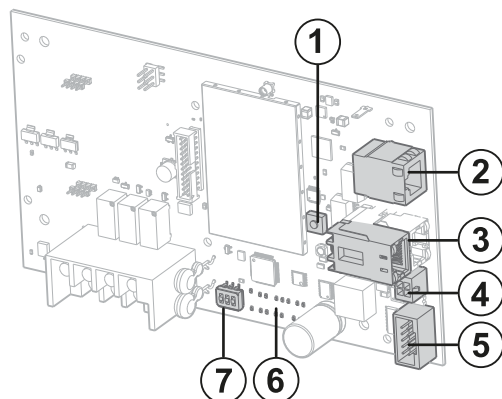

Fig. 33: Connected Services Gateway module
- 1 Connect the power harness to the 4-pin power connector on the CSG. See item 4 in Fig. 33.